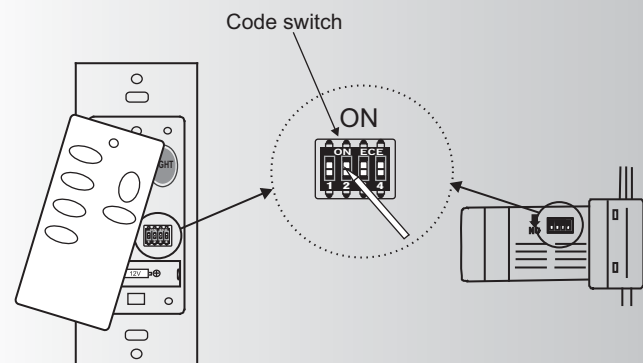

Fig. 12
**NOTE:** The 370039 Wall Control System is equipped with 16 possible frequency combinations to prevent interference from or with other remote control units. The frequency switches on your receiver and transmitter have been preset at the factory. Please recheck to make sure the switches on transmitter and receiver are set to the same position, any combination of settings will operate the fan as long as the transmitter and receiver are set to the same position. (Fig. 12)